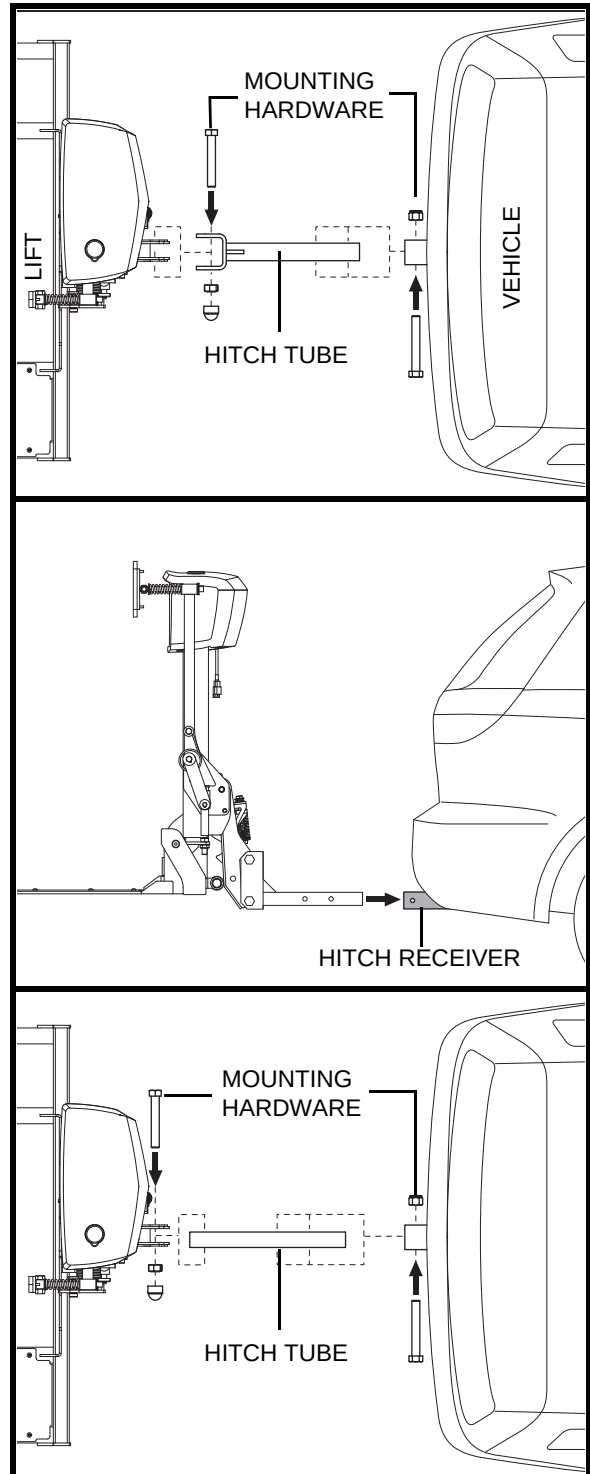

Figure 8. Hitch Tube Assembly
2. Mount the hitch tube to the lift frame using the previously removed mounting hardware. Install the hardware in the direction indicated in **figure 8**.
3. Slide the hitch tube into the vehicle hitch receiver, aligning the mounting hole closest to the lift with the mounting hole in the hitch receiver. See **figure 8**.
- Secure the hitch tube with the supplied bolt and nut, inserting the bolt from the threaded side of the hitch tube. See figure 8.